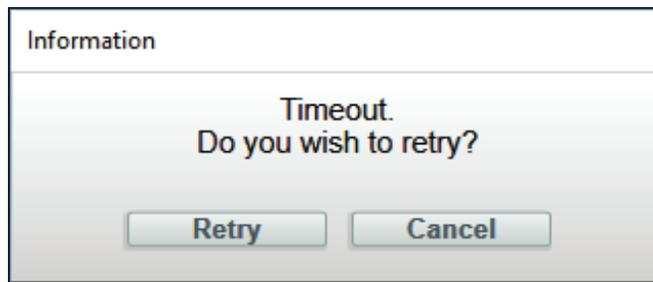
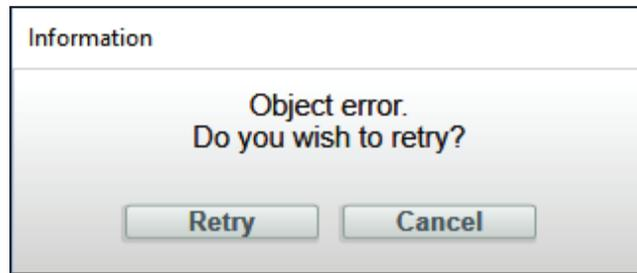

Figure 16. The timeout message.
Figure 17. Object error message.
When attempting to connect a TripSaver II recloser using the service center configuration software, the connection process will timeout if it is unable to create or maintain a wireless connection. See Figure 16. This is generally caused by low signal strength, which can be a result of distance, orientation of the product, interference from other signal sources, or a combination of these. A USB Transceiver is available with an enhanced external antenna to improve signal strength.
STEP 3. Reattempt connecting to the TripSaver II recloser. If the Timeout message (see Figure 16 on page 18) persists or an **Object Error** message (see Figure 17) appears, (this may be noticeable more often when connection to consecutive TripSaver II reclosers using the same computer), reset the USB transceiver.